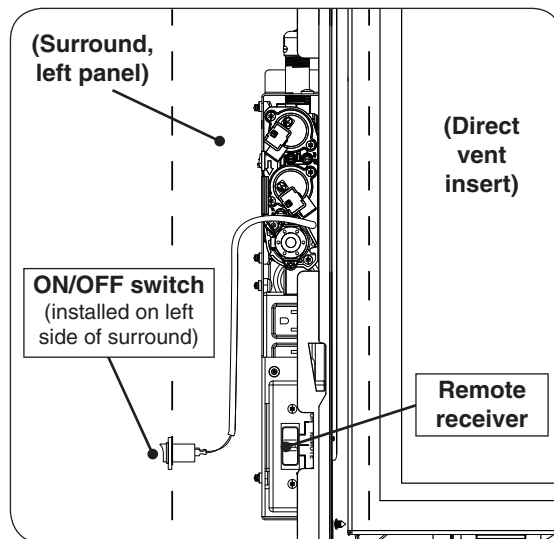
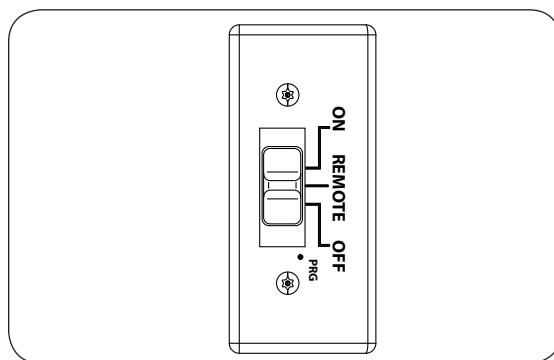
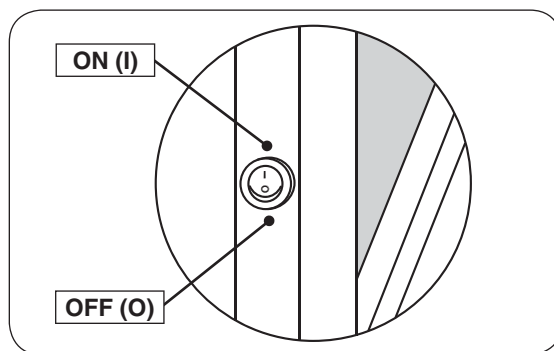

Fig. 39-1 Control box (left side, behind surround)
Fig. 39-2 Remote receiver detail
Fig. 39-3 ON/OFF switch detail
1. The control box is on the left side of the unit. Locate the remote receiver on the control box (see Fig. 39-1). Slide the 3-position switch on the receiver to the **REMOTE** position (see Fig. 39-2).
2. Locate the ON/OFF switch on the left side of the surround (see Fig. 39-1). Switch it to the **ON (I)** position (see Fig. 39-3).